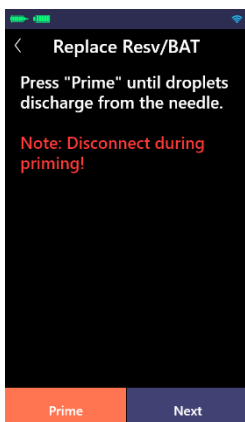

Figure 4.21
(3) Prime. Press or click “Prime” until droplets discharge from the needle, then click “Next” (as shown in Figure 4.21).